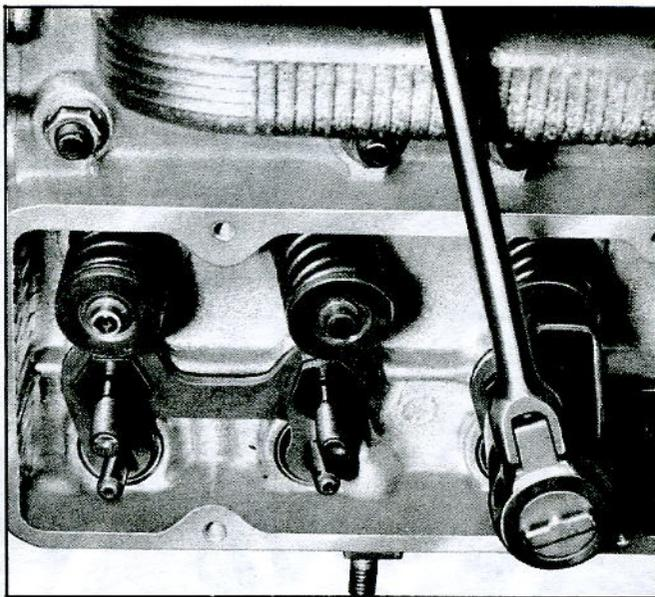

Fig. 35—Push Rods Installed
- Install push rods with the side oil hole out (fig. 35).